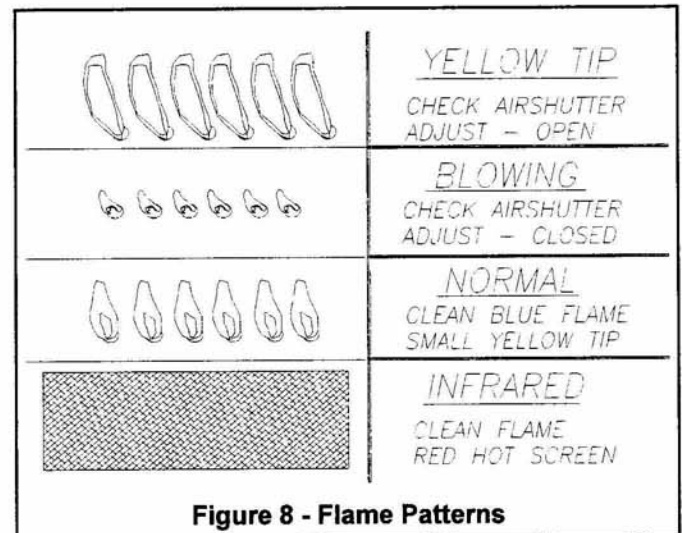

Figure 8 - Flame Patterns
- 7) Once the burners are operating, verify the main burner flame or the rotis burner flame matches **figure 8**. If adjustment is required, loosen air